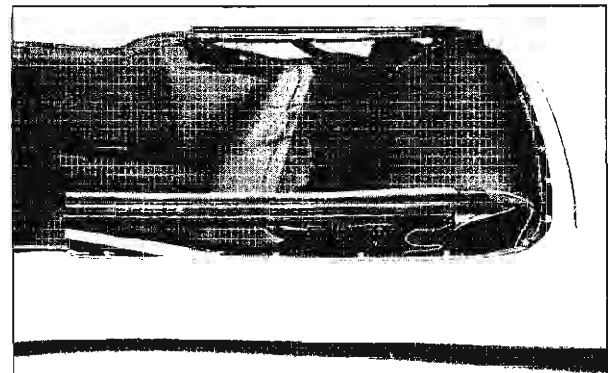

Fig. 21-12 Turn Top Material Forward
5. Fold top material forward over front roof rail (Fig. 21-12).